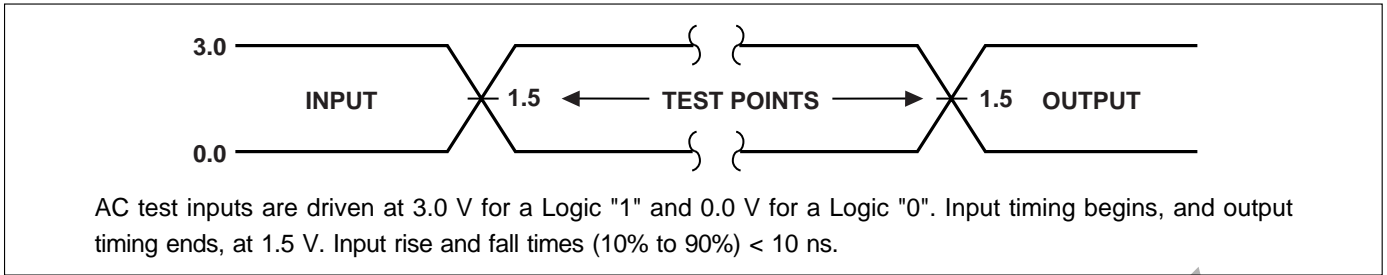
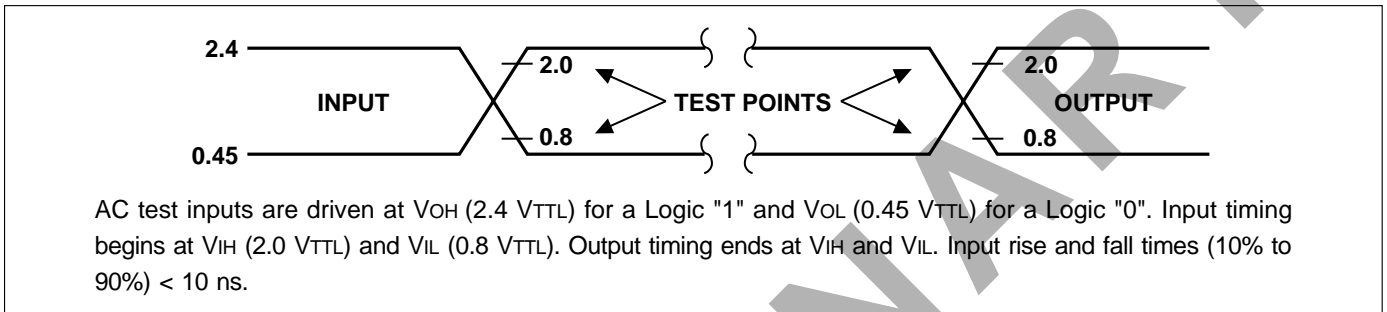
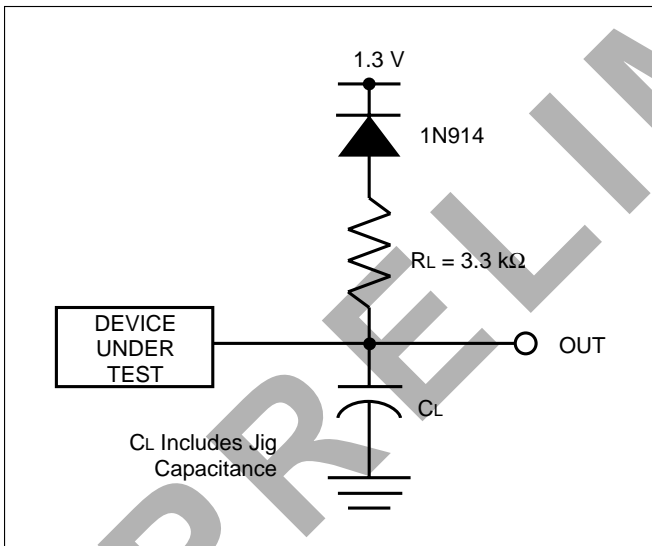

Fig. 12 Transient Input/Output Reference Waveform for $V_{CC} = 5.0 \pm 0.25$ V (High Speed Testing Configuration)
Fig. 13 Transient Input/Output Reference Waveform for $V_{CC} = 5.0 \pm 0.5$ V (Standard Testing Configuration)
Fig. 14 Transient Equivalent Testing Load Circuit
1. See AC Input/Output Reference Waveform (Fig. 12 and Fig. 13) for maximum allowable input slew rate.
4. See Fig. 12 "Transient Input/Output Reference Waveform" and Fig. 14 "Transient Equivalent Testing Load Circuit" (High Speed Configuration) for testing characteristics.
5. See Fig. 13 "Transient Input/Output Reference Waveform" and Fig. 14 "Transient Equivalent Testing Load Circuit" (Standard Configuration) for testing characteristics.